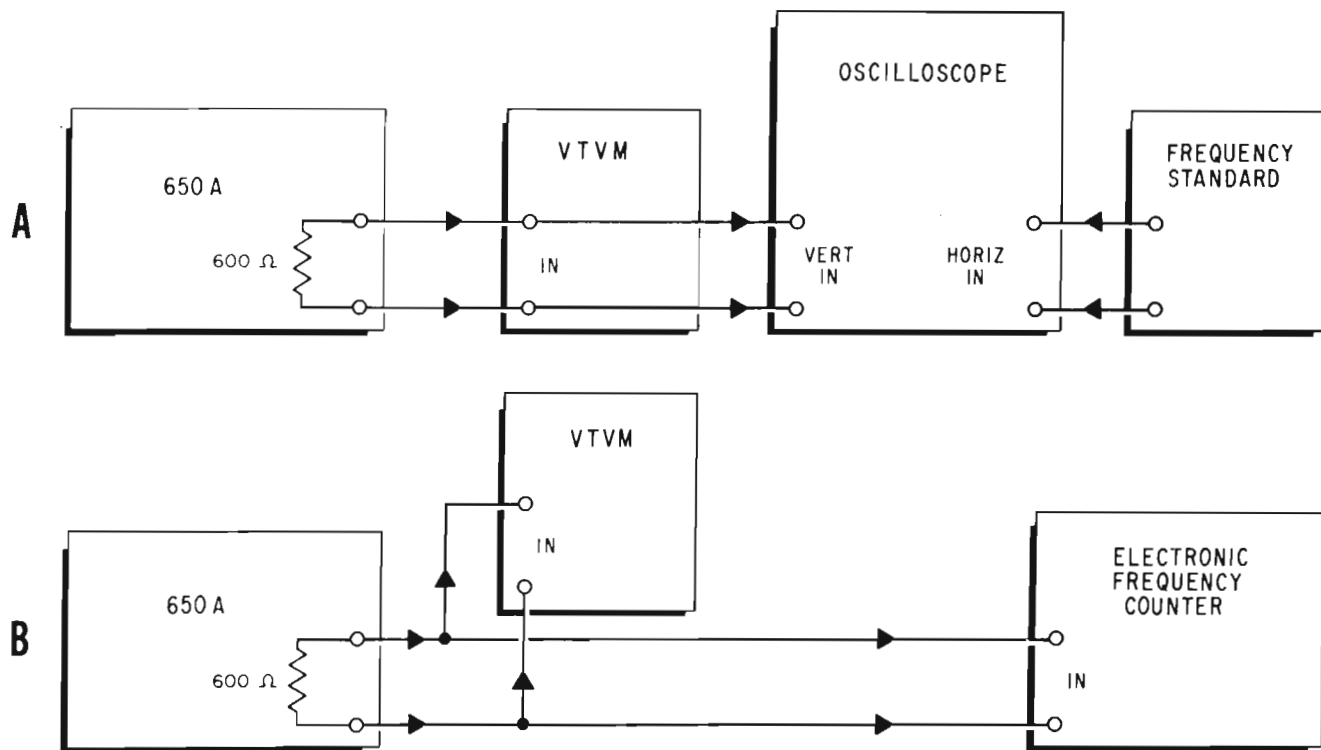

Figure 4-3. Calibration and Response Check for Low Frequency Oscillator (Figure B is suitable over entire 650A frequency range.)
Suggested setups for low frequency oscillator calibration and response checks are given in Figure 4-3. Any high impedance ac voltmeter capable of accurate voltage measurement from 10 cps to 100 kc can be used.
A. Connect a 600 ohm resistive load and frequency measuring equipment to 650A output terminals. See Figure 4-3.
A. Connect voltmeter and frequency measuring equipment as shown in Figure 4-3.